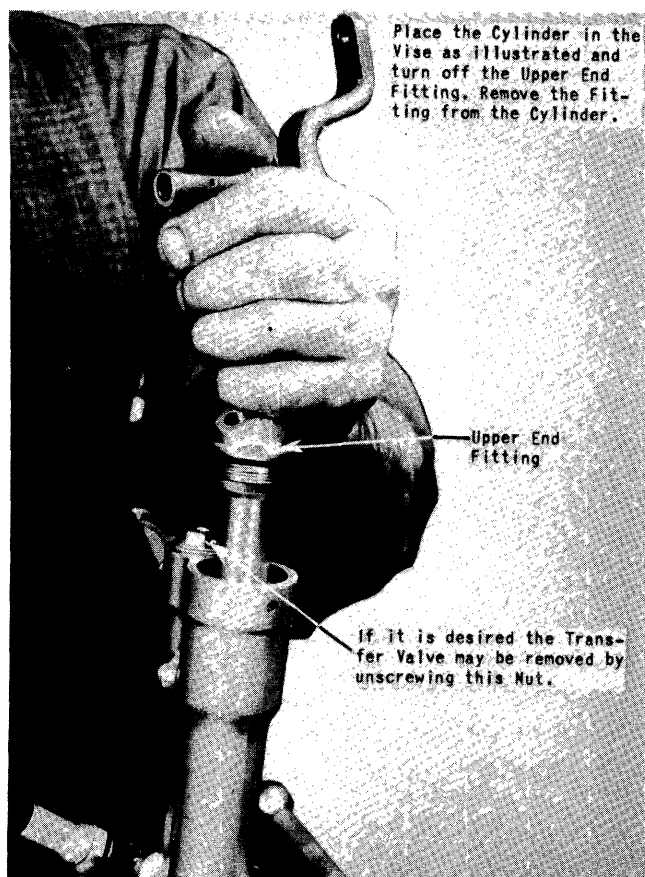

Figure 201 - Removing Upper End Fitting from Cylinder
(5) Reverse the cylinder in the vise and turn off the upper end fitting. (See figure 201.)
(6) Push gently on the piston rod protruding from the cylinder assembly until it is free of the cylinder. The lower rubber cup may either come out with the piston rod or remain in the cylinder.
(7) Remove the two screws securing the "U" retainer on the bottom of the cylinder and remove the retainer.